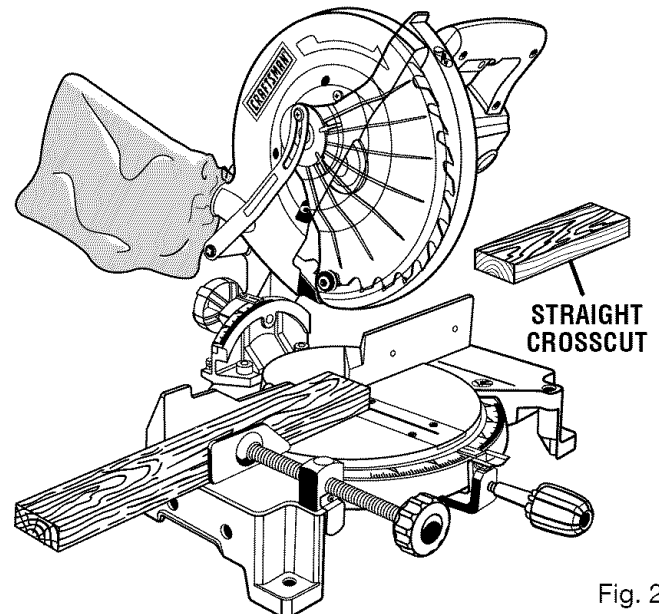

Fig. 26
See Figure 26.
- Grasp the stock firmly with one hand and secure it against the fence or use the optional work clamp or a C-clamp to secure the workpiece. *See Figure 26.*
- Slowly lower the blade into and through the workpiece. *See Figure 26.*